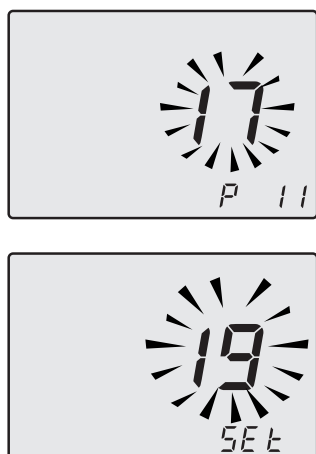

Fig. 7.27
- The writing **P11 - SEt** alternates on the display (Fig. 7.27).